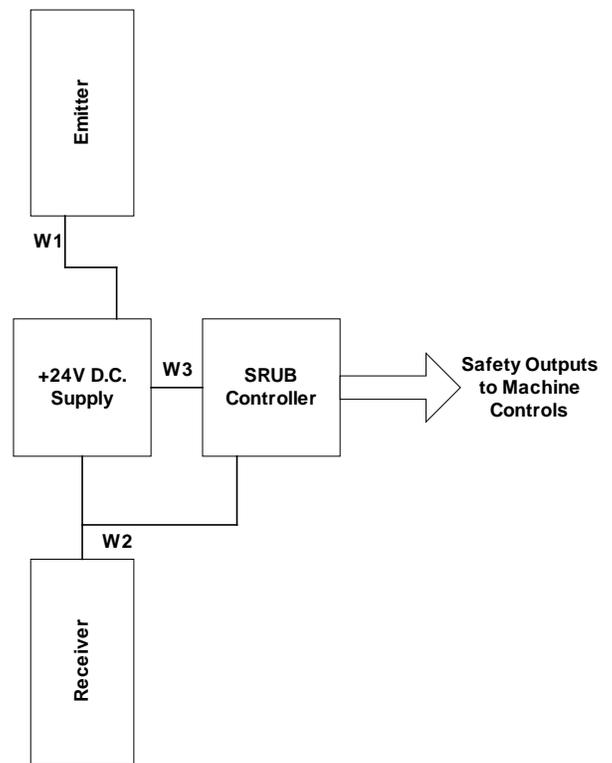
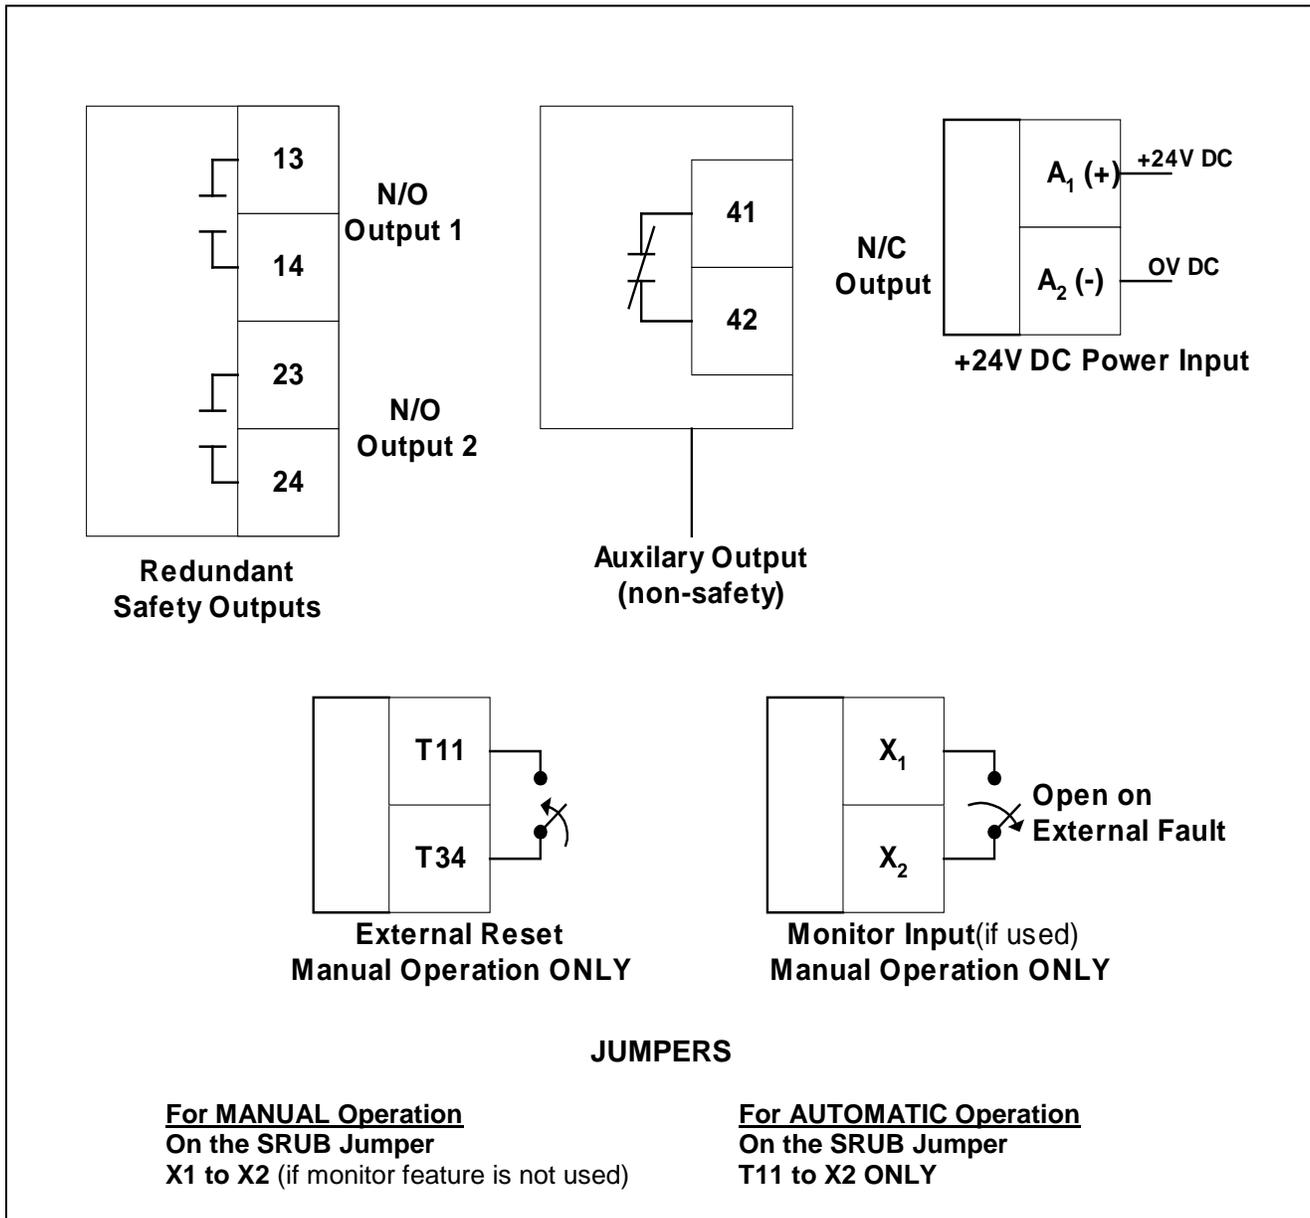

Figure 41 System Block Diagram For the SRUB Interface Unit
Figure 42 Input and Output Functions, Jumper Details and Terminal Markings for the SRUB
The SRUB controller has twenty integral connection terminals, in two rows, along the top of the unit. The terminals are marked according to their intended function. Each terminal is suitable for up to two (2) 2.5mm² (14 AWG) solid wires. Crimped ferrules or tinning must be used on all stranded wires. **Figure 41** shows the system block diagram for the SRUB controller. **Figure 42** shows the terminal numbers for the various input and output functions.
In the manual reset mode, the SRUB Controller requires an external reset switch. This switch should be a normally-open, momentary-contact type. The location of the reset switch must be such that any person resetting the safety system must be able to completely see the hazardous area. The system should not be able to be reset if an operator is within the hazardous area, or if a fault exists in the safety system and/or machine control circuitry. The reset circuit of the SRUB Controller is designed to protect against a failure (failed closed) or by-pass of the reset button. The reset circuit requires a closure and return to an open position. Replacing the reset switch with a simple jumper will not convert the SRUB Controller to automatic reset operation. (For automatic reset operation, see the jumper configuration in **Figure 42**.)